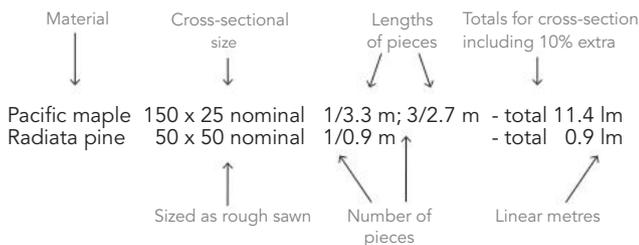

Figure 2.9 Order for Pacific maple and radiata pine
- 3 the number of pieces and their specific lengths (including the 10 per cent extra). Other lines are added to the order, with similar information if a different cross-section of timber is required. The order would be set out as shown in Figure 2.9.
Warning: 'nominal' is the width and thickness of the timber as it comes 'rough-sawn' from the sawmill (see Figure 2.8). These sizes are 18, 25, 38, 50, 75 and 100 mm for thicknesses and 50, 75, 100, 150, 200, 250 and 300 mm for widths. The timber is then dressed all round (DAR), which means it is put through a thicknessing machine that takes 3 mm off every side and edge (also known as the 'finished' size). Although this saves time by normally giving you a clean, accurate surface, the downside is that the overall width and thickness of the timber have been reduced by 6 mm and this must be taken into account when placing your order (see Fig. 2.9). You will pay for nominal-sized timber but receive DAR-sized timber (i.e. you pay for the DAR shavings). This does not affect length in any way.